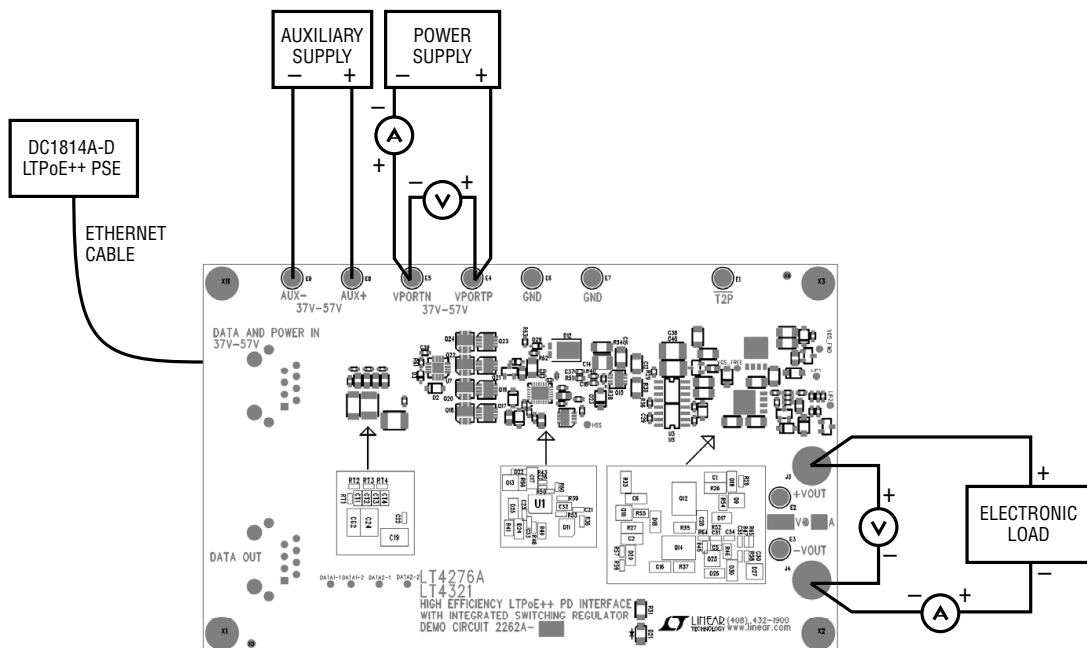

Figure 8. Proper Measurement Equipment Setup
Demonstration circuit 2262A-A is easy to set up to evaluate the performance of the LT4276 in a PoE application. Refer to Figure 8 for proper equipment setup and follow the procedure below:
1. Place test equipment (voltmeters, ammeters, power supplies, and electronic load) as shown in Figure 8.
- Or, connect a 37V to 57V capable power supply ("Power Supply" in Figure 8) across VPORTP and VPORTN.
- If evaluating the auxiliary power supply ("Auxiliary Supply" in Figure 8), connect a 37V to 57V capable power supply across AUX+ to AUX-.